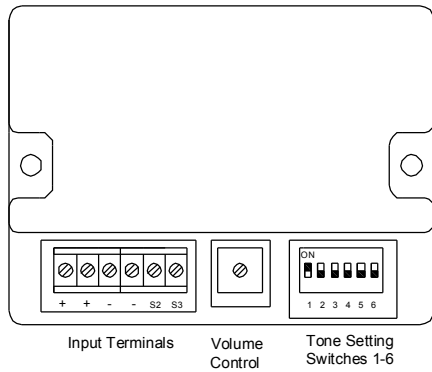

Fig 2 Location of field terminals and controls.
- Fit a 20mm cable gland or conduit entry into the untapped hole in the enclosure and connect the field wiring to the appropriate sounder terminals as shown in section 6 and fig 2 of this manual. The power supply terminals + and - are duplicated so that sounders may be connected in parallel, or an end of line monitoring resistor may be fitted.
- Select the required output tone by positioning the six switches as shown in Table 1 and Fig 2.